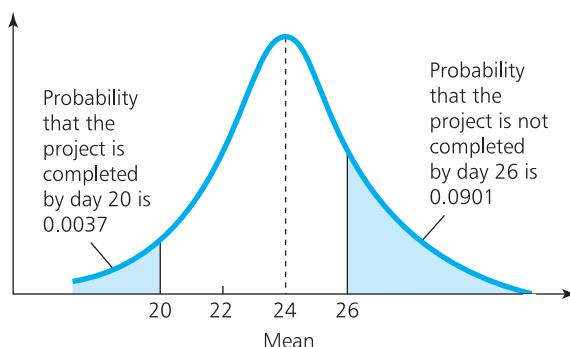

Figure 21.15 Normal distribution for project duration
- (a) We can find the probability that the project is not finished before day 26 from the Normal distribution shown in Figure 21.15. Here Z is the number of standard deviations the point of interest is away from the mean: